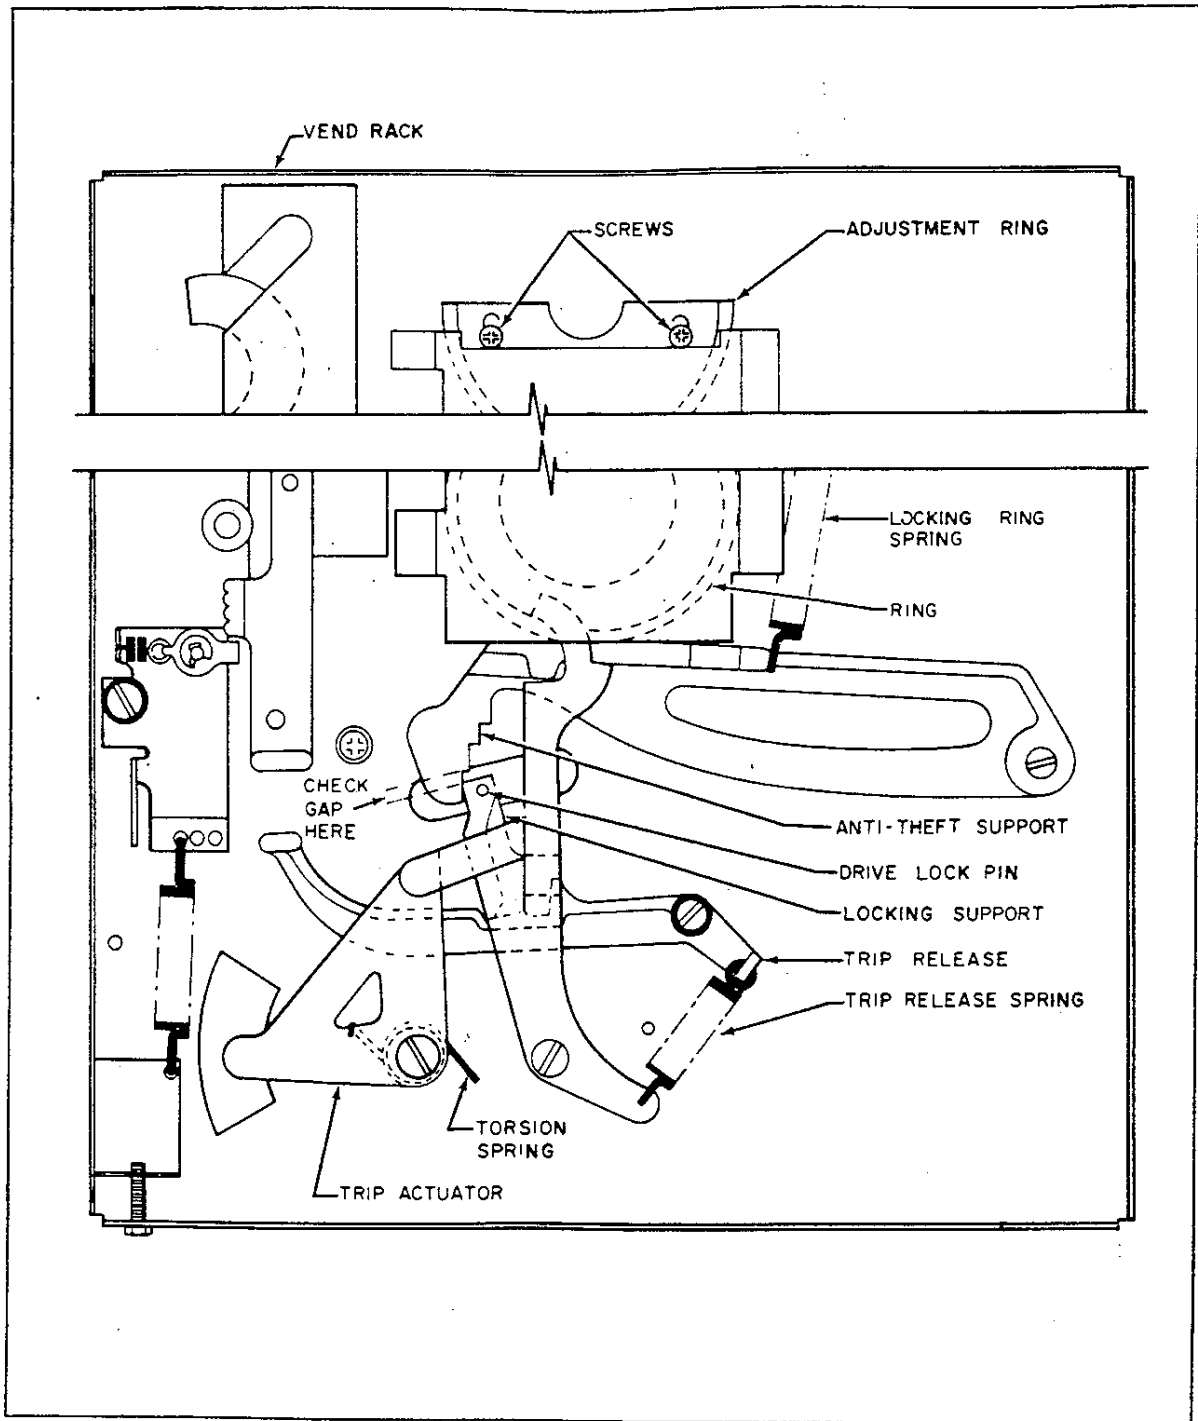

Figure 4-1. Adjusting Vending Rack Assembly
4.4.1 If gate lockout arm does not operate properly, adjust as follows: (See Figure 4-1.)